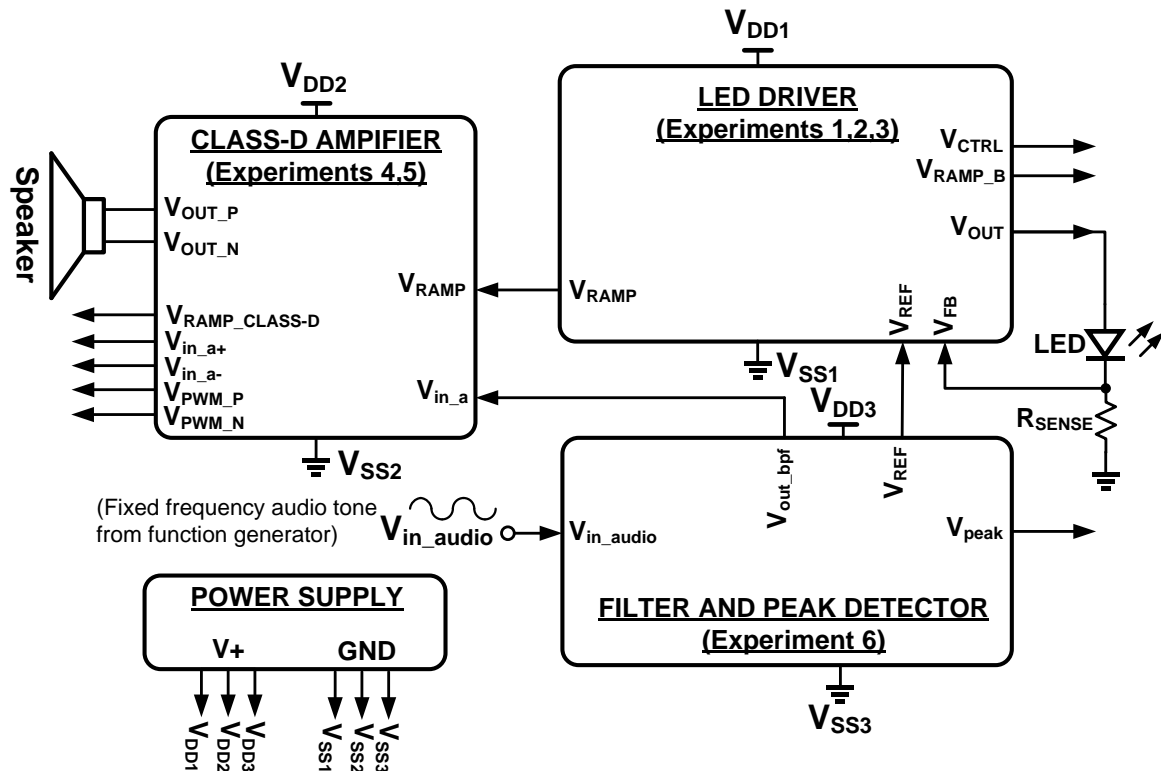

Figure 5-1 Block diagram of the complete system after integration
Top level integration combines all the three modules (LED Driver, Class-D Amplifier and Filter+Peak Detector designed during experiments 1-6) to build the complete system. Figure 5-1 shows the block diagram of the complete system after integrating all the modules.
3. Label all the signals shown in the block diagram of Figure 5-1 using a small piece of paper and tape. Wires connecting to these labelled signals should be brought to for measurement. Rest of the signals can left inside the board.
3. Probe signals listed in Figure 5-1.